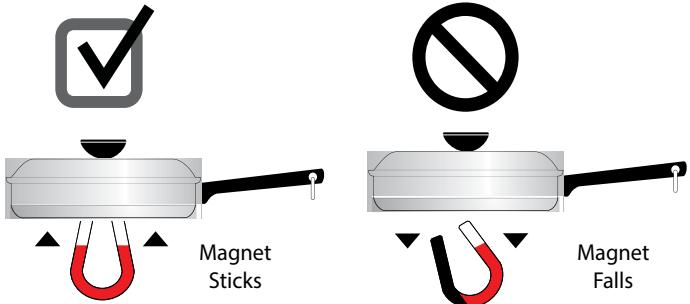

Figure 4: Magnet test
- **Stainless Steel** - Slow heat conductor. Durable, easy to clean, and resists staining. Some types of stainless steel will not work on an induction cooktop. Use the magnet test (see "Figure 4: Magnet test") to check stainless steel cookware.
To see if a piece of cookware will work on your induction cooktop, try to stick a magnet to it (see Figure 4).